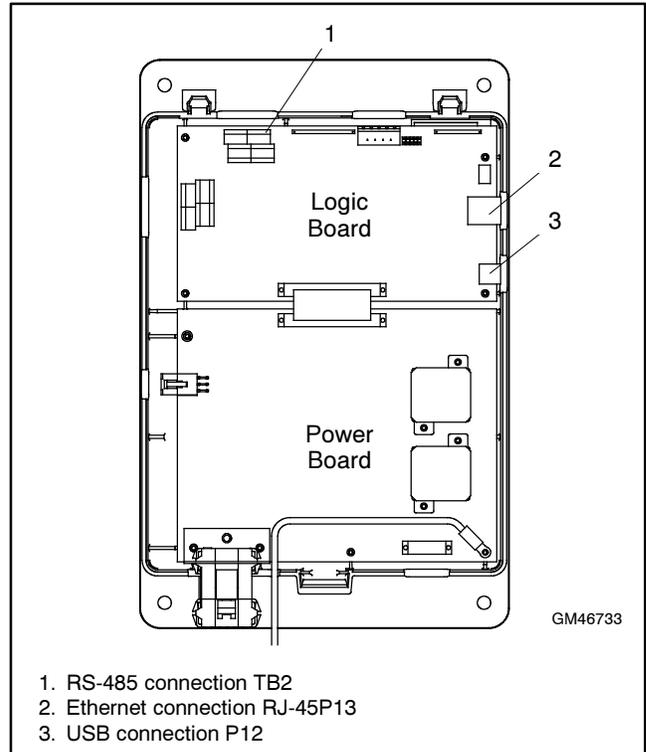

Figure 6-1 Communication Connections (controller cover removed for illustration only)
See Figure 6-1 for the connector locations.
Use serial connections to TB2 on the controller's logic board to connect the transfer switch to a personal computer, the optional ATS remote annunciator, or a Modbus network. System monitoring and control using Kohler® Monitor III software requires serial connection to a personal computer as described in this section. See Figure 6-1 for the location of TB2.
Ethernet Port. The ethernet port is a standard RJ-45 female plug on the controller's main logic board. See Figure 6-1 for the location of the Ethernet port. Use Category 5e or better cable to connect the controller to the building's network. The ethernet connection allows the controller to communicate with a personal computer on the network to run Monitor III Software or other Modbus applications.
1. Insert the USB mass storage device into the USB port on the controller's main logic board. See Figure 6-1 for the port location.